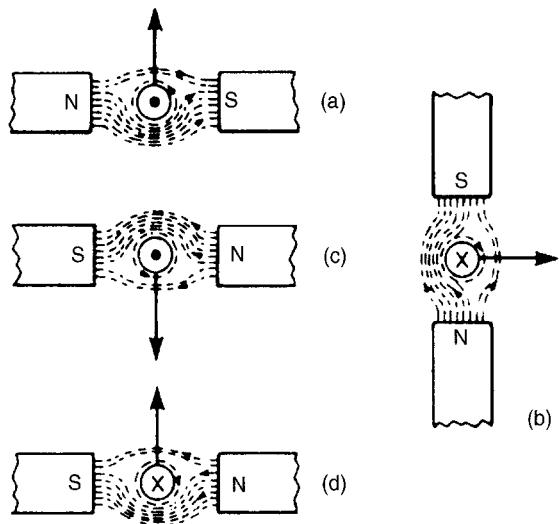

Figure 8.16
- (a) The direction of the main magnetic field is from north to south, i.e. left to right. The current is flowing towards the viewer, and using the screw rule, the direction of the field is anticlockwise. Hence either by Fleming's left-hand rule, or by sketching the interacting magnetic field as shown in Fig. 8.16(a), the direction of the force on the conductor is seen to be upward.
- (b) Using a similar method to part (a) it is seen that the force on the conductor is to the right — see Fig. 8.16(b).
- (c) Using Fleming's left-hand rule, or by sketching as in Fig. 8.16(c), it is seen that the current is toward the viewer, i.e. out of the paper.
- (d) Similar to part (c), the polarity of the magnetic system is as shown in Fig. 8.16(d).